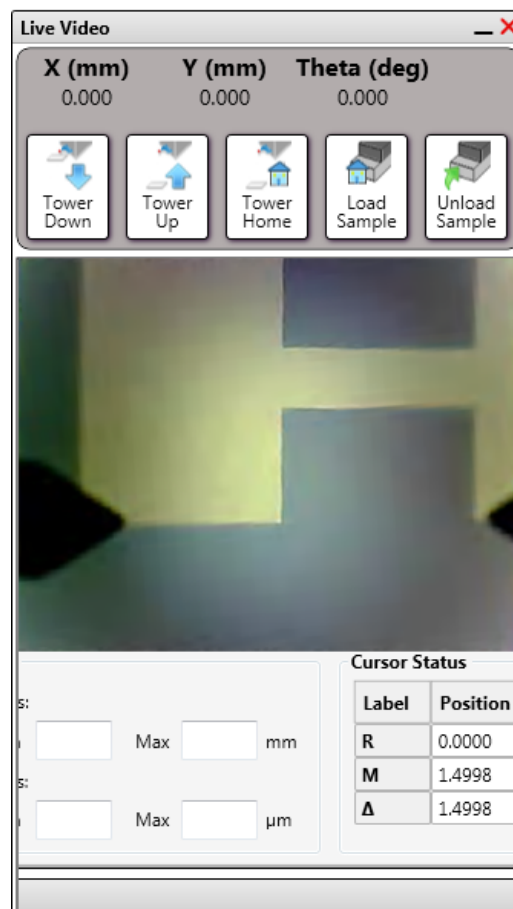

Figure 6-15: Live Video Display
- The Live Video Display that gives you a live view of your sample and the stylus (see Figure 6-15).